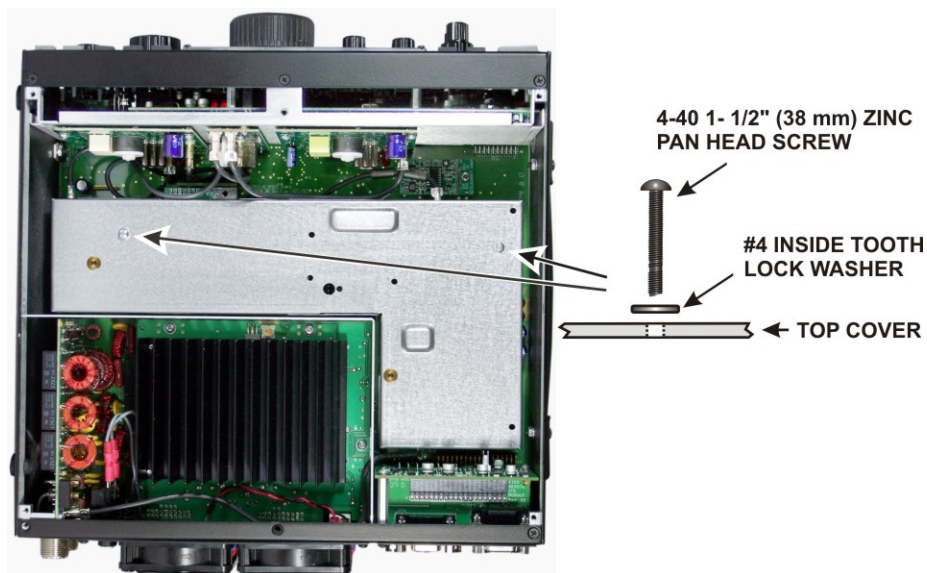

Figure 2. Removing the KRX3 Module.
If your K3 is equipped with the optional KRX3 Subreceiver, you must remove the subreceiver module to install the KXV3. The KRX3 subreceiver module is the “L” shaped metal enclosure (see Figure 2). Remove the subreceiver module as follows:
- Remove the two 1-1/2” (38 mm) screws and lock washers shown in Figure 2. These screws extend all the way through the KRX3 module and secure it to standoffs mounted on the main RF board that fills the bottom of the K3.